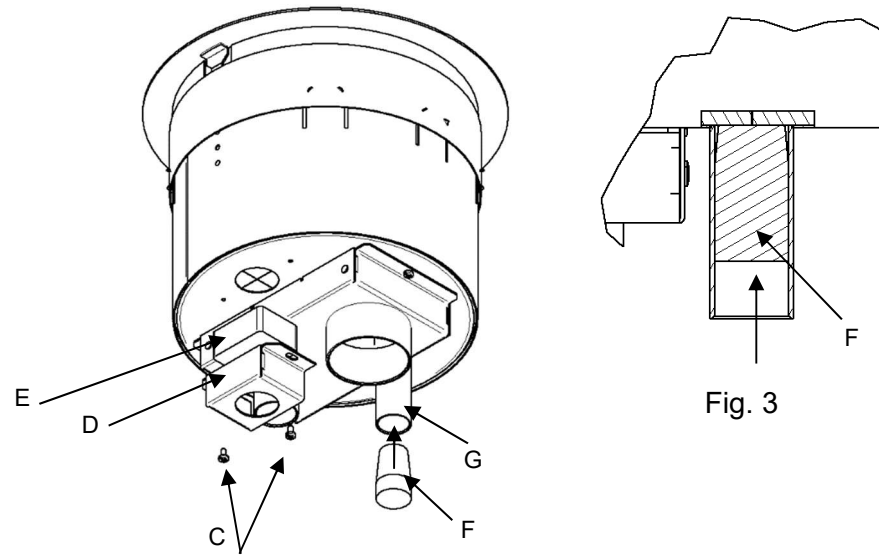

Fig. 2
5. Intumescent plugs and connector box is shipped with the fitting. Insert rectangular intumescent plug (E) in to connector box (D). Attach connector box (D) to can with provided screws (C). Torque screws (C) to 6-10 in-lbs (0,7-1,1 Nm). See Fig 2. Insert conical intumescent plug (F) into EMT fitting (G) until intumescent has bottomed. See Fig's 2 & 3. **Note: To maintain fire classification, both intumescent plugs (E) & (F) must be installed.**